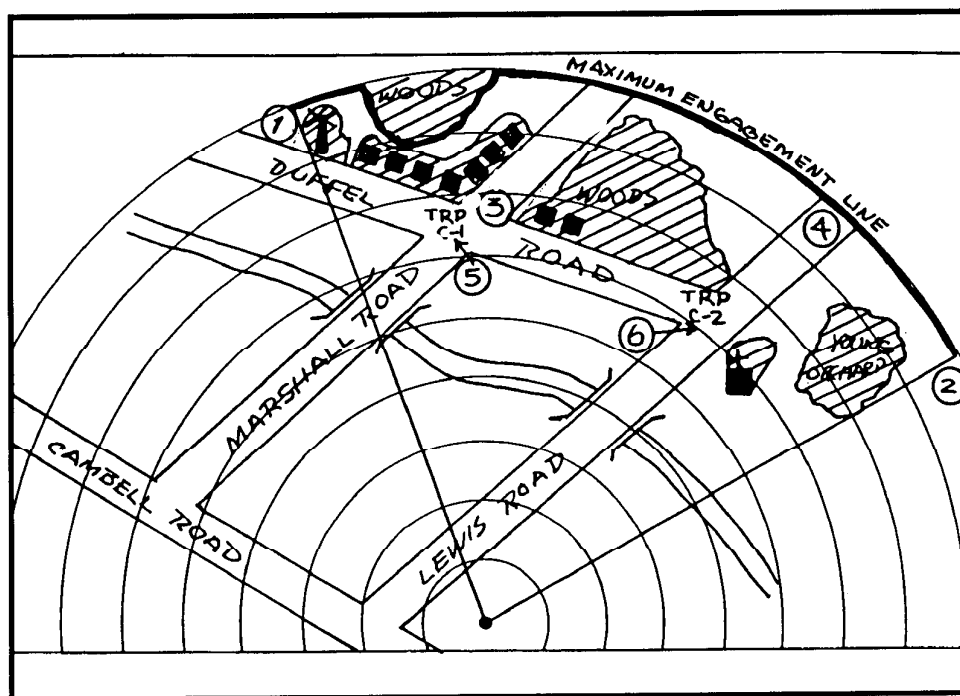

Figure E-7. Dead space indicated.
f. Place diagonal lines, or the words "dead space," where dead space occurs (Figure E-7, page E-7).